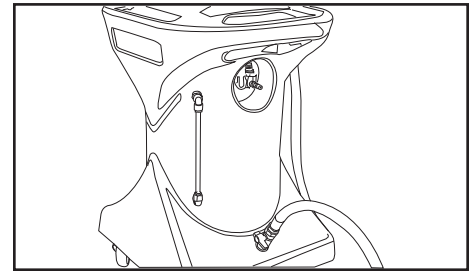

Fig. 5
- a. Thread the hose assembly into the ball valve at the bottom of the tank. **(See Fig. 5)**